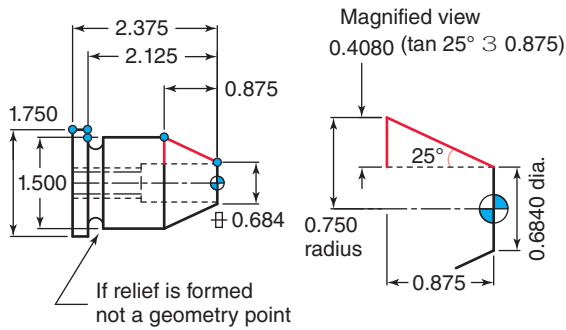

Figure 17-73 Pin collet chuck solutions.
14. At the centerline and at the tip of the 508 face (Fig. 17-73). The part should be turned around 180° from the drawing orientation, with the 508 point facing the tailstock. In that position, all details can be machined and the PRZ is easily verified at the outer tip of the material.
17. Coordinates are in *X* and *Z*. Remember, all *X* coordinates are diameter values for most lathe programs (Fig. 17-73).
18. See Fig. 17-73.